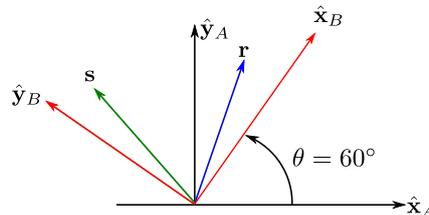

Figure 2: The vectors \mathbf{r} and \mathbf{s} can be expressed in either F_A or F_B . Unit vectors are not drawn to scale.
- Consider Fig. 2 that shows two collocated reference frames F_A and F_B inclined at an angle θ (measured counter-clockwise from the \hat{x}_A axis to the \hat{x}_B axis) and two vector \mathbf{r} and \mathbf{s} .